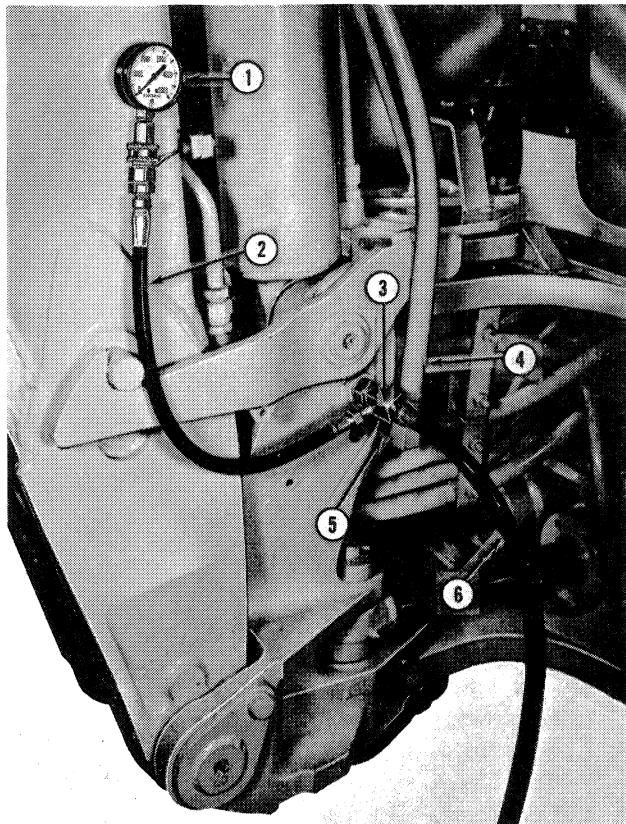

Figure 17
Refer to Figure 17. Warm the hydraulic oil to 165° F. (73.8° C.) by operating the backhoe for approximately 15 minutes before installing the test fittings.
3. Disconnect the lift cylinder rod hose (4), Figure 17, from the swing post fitting and cap as shown. Connect the CR2 fitting (3) to the swing post port and connect the N1100-HS hose (6) to the CR2 fitting.
4. Install a 5000 psi (344.7 bar) gauge (1), Tool No. D-22, and hose assembly (2), Tool No. D-19-HP to the CR2 fitting (3). Securely tighten all fittings.